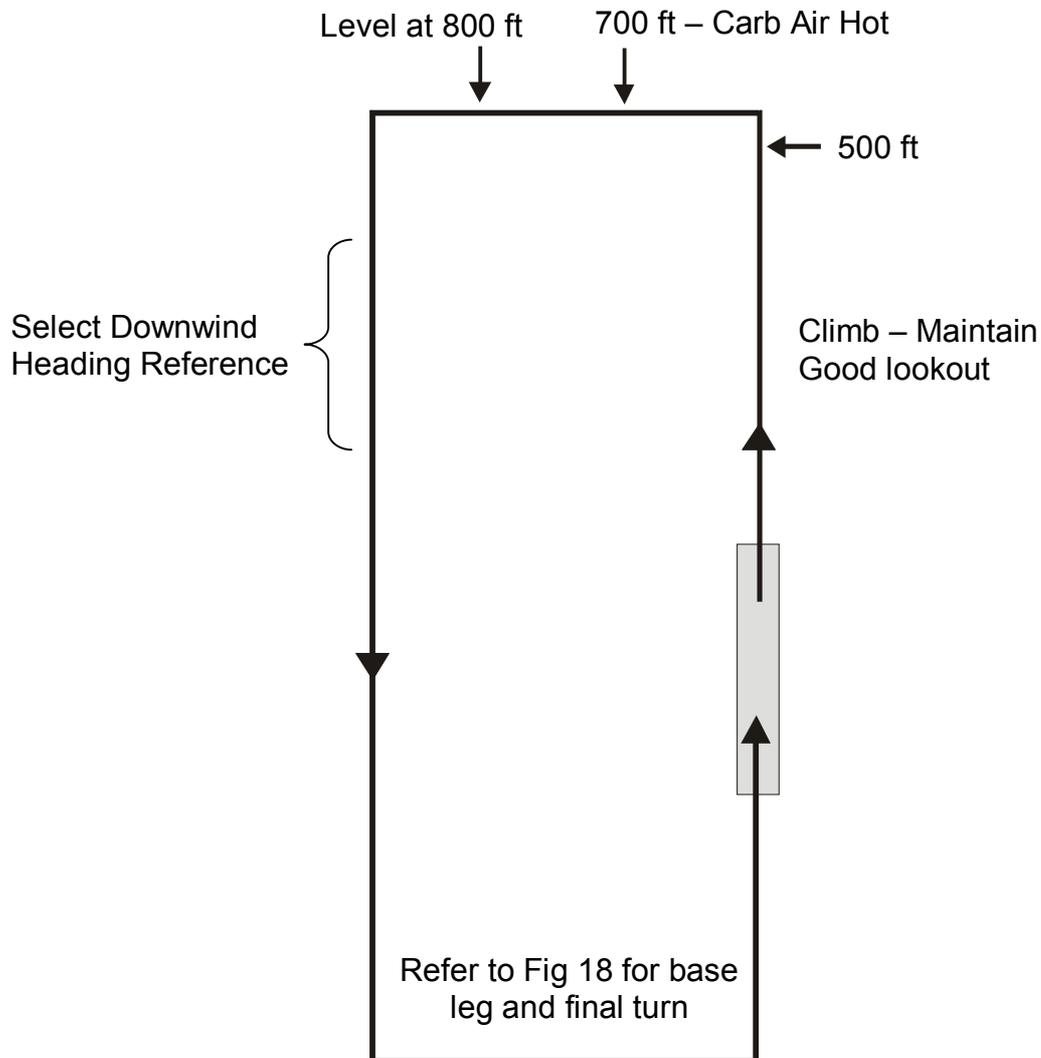

Fig 16 The 800ft rectangular circuit
2. **The 800ft rectangular circuit.** (Fig 16).